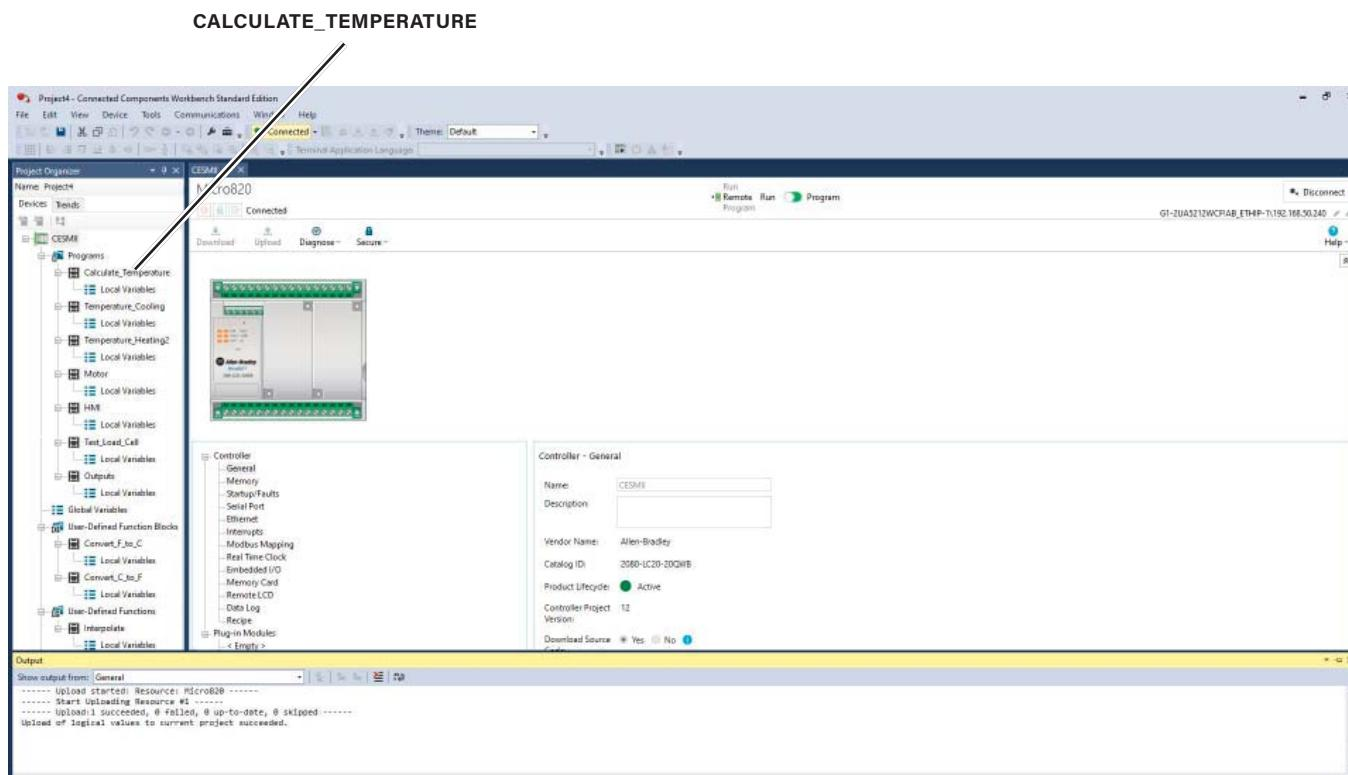

Figure 6-9. CCW with CESMII Program
- A. Double-click on Calculate_Temperature, located at the top lefthand side of the devices tree, as shown in figure 6-9.